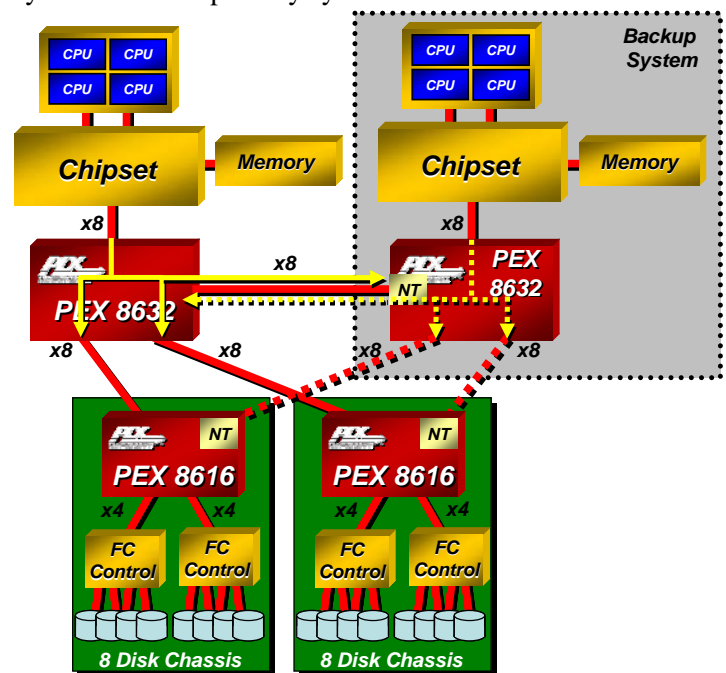

Figure 6. Dual Cast in Storage Systems
The PEX 8632's Dual Cast feature proves to be very useful in storage systems. In the example shown in Figure 6, the Dual Cast feature enables the PEX 8632 to copy data going to its two downstream ports to the backup system and vice versa (see yellow traffic patterns) in one transaction as opposed to having to execute two separate transactions to send data to the redundant chassis. By offloading the task of backing up data onto the secondary system, processor and system performance is enhanced. Non-Transparent (NT) ports are used to isolate the host domains of the backup system from the primary system.